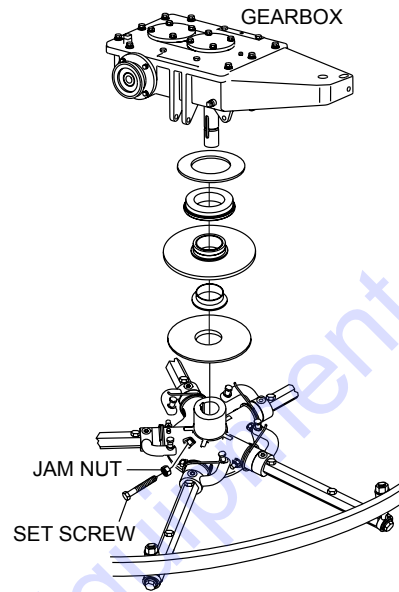

Figure 36. Spider Removal
1. Locate the cone point square head set screw (Figure 36) and attached jam nut found on the side of the spider assembly.